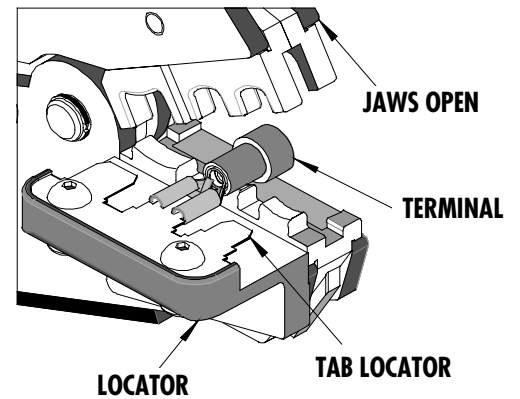

Figure 1
2. Push the terminal onto the tab locator all the way to the stop in the proper color-coded nest. The Barrel of the terminal should be up (See Figure 1).